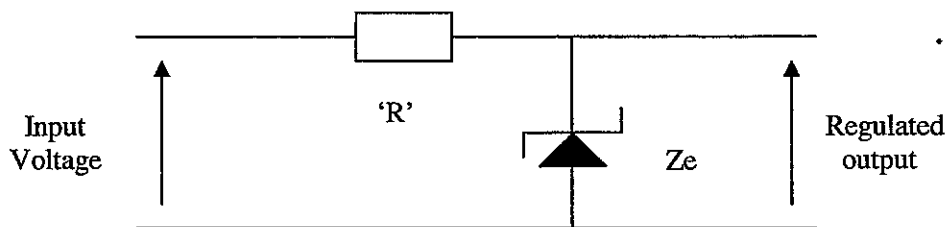

Fig Q3
3. Fig Q3 shows a basic voltage regulator circuit comprising a Zener diode and a series resistor  $R$ . The Zener diode has a breakdown voltage of 8.6 volts and a slope resistance of  $10\Omega$  after breakdown. It requires a minimum current of 2mA for successful voltage regulation. The unregulated input voltage can vary between 16 and 24 Volts.